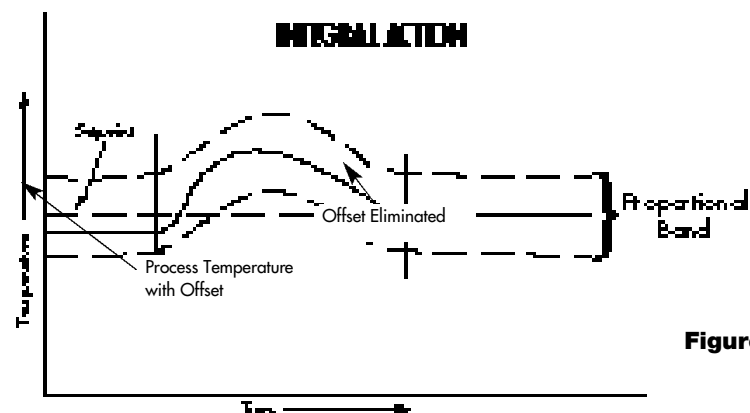

Figure 7.
- Proportional with Integral (PI), automatic reset. **Figure 7.** Integral action moves the proportional band to increase or decrease power in response to temperature deviation from setpoint. The integrator slowly changes power output until zero deviation is achieved. Integral action cannot be faster than process response time or oscillation will occur.
- Proportional with Derivative (PD), rate action. Derivative moves the proportional band to provide more or less output power in response to rapidly changing temperature. Its effect is to add lead during temperature change. It also reduces overshoot on start-up.